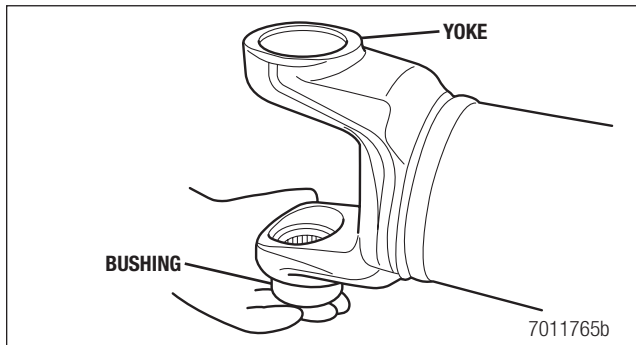

Figure 5.93
2. Install the bushing in the bottom of the yoke. Figure 5.93.